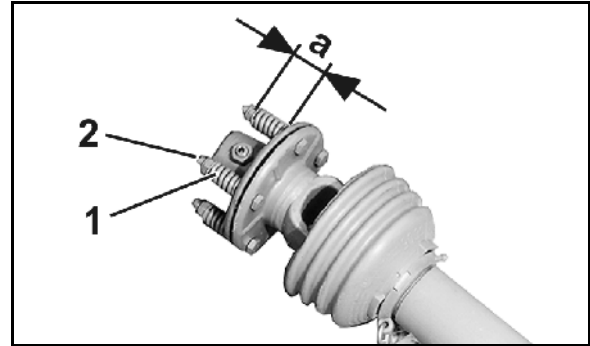

Fig. 80
2. Relieve the springs (Fig. 80/1) by unscrewing the nuts (Fig. 80/2).